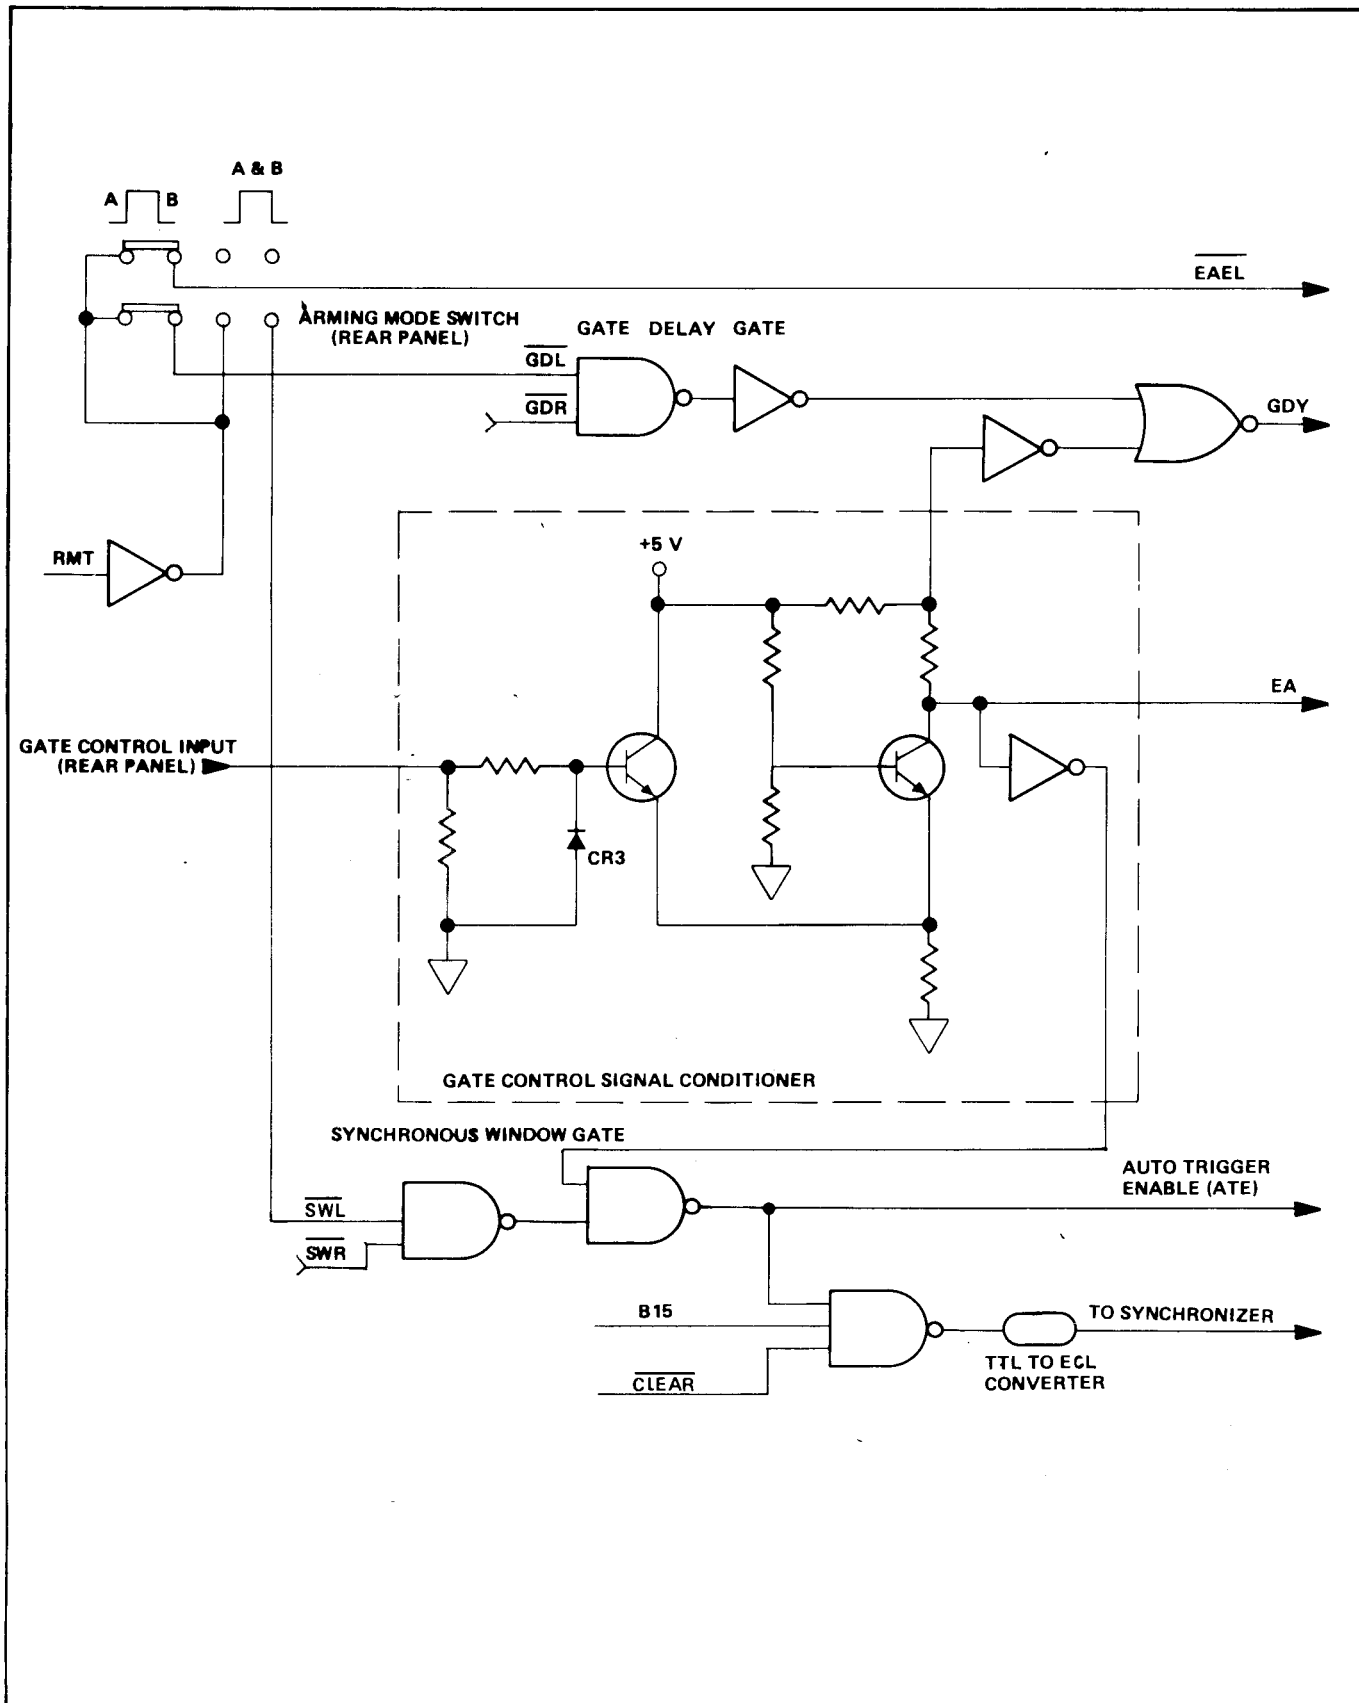

Figure 1.27 - Gate Control Simplified Logic Diagram
1.4.14.1 The gate control signal conditioner selects the external gate control mode of operation and the signals to arm the measurement gate. A simplified logic diagram of the gate control signal conditioner is shown in figure 1.27. The rear panel arming mode switch has three positions. The signals activated by the arming mode switch are listed in table 1.9. The selective gate position causes the counter to arm on the leading edge of the external gate signal and to allow the closing of the gate or the trailing edge of the external gate signal. The measurement gate opens on the first start signal following the leading edge of the external gate signal. The measurement gate closes on the first stop signal following the trailing edge of the external gate signal.